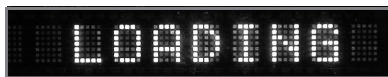

Figure 3
2. Press the OPEN/CLOSE Push-button and the disc tray will close. Refer to figures 6 and 2. Loading of disc's Table of Contents (number of tracks and total playing time) will be indicated on the Front Panel Information Display. Depending on the type of disc (SACD, CD or MP3), it may take up to 30 seconds to read the Table of Contents (TOC). Refer to figures 3 and 4.